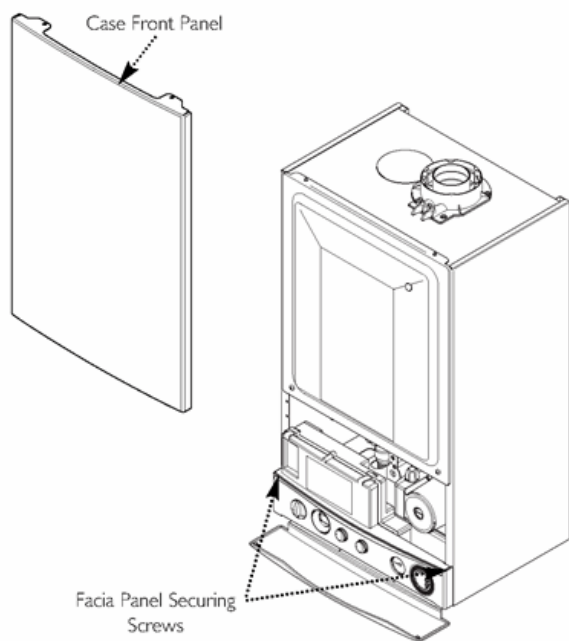

Fig. 69
3. Slacken the screws securing the facia panel. Lift the outercase panel so that its securing tabs are clear of the facia. Remove the panel, allowing the facia to hinge down (Fig. 69).